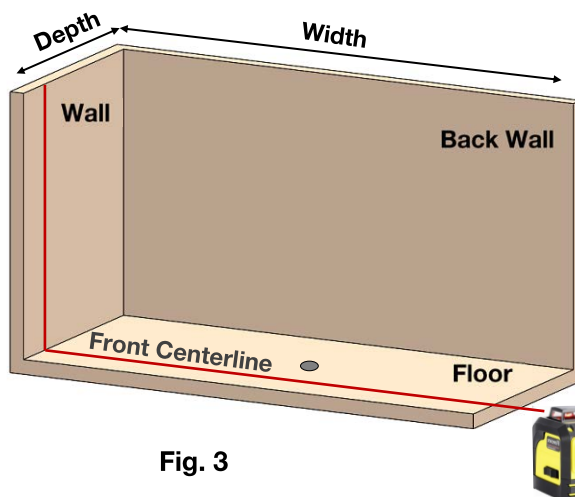

Fig. 3
- A. Check width of wall at the front centerline. Refer to layout drawing for dimension. *Note: The centerline of each toilet compartment must be measured from the front centerline and not at the back wall.* **Fig. 3**